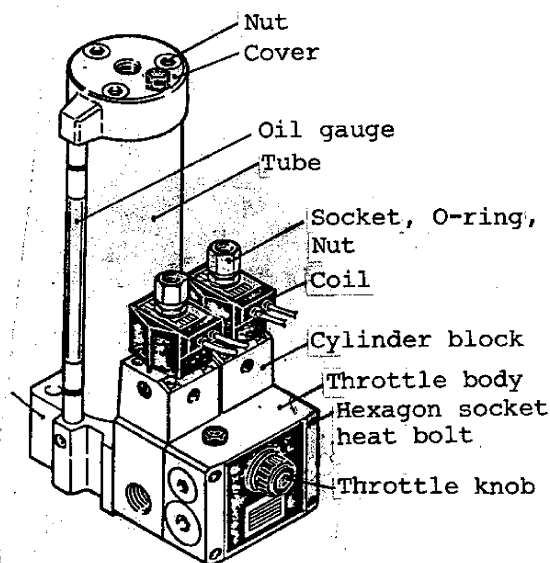

Fig. 6
1) Disassembling of converter unit (Fig. 6.)
2) Disassembling of converter (Figs. 6 & 7.)